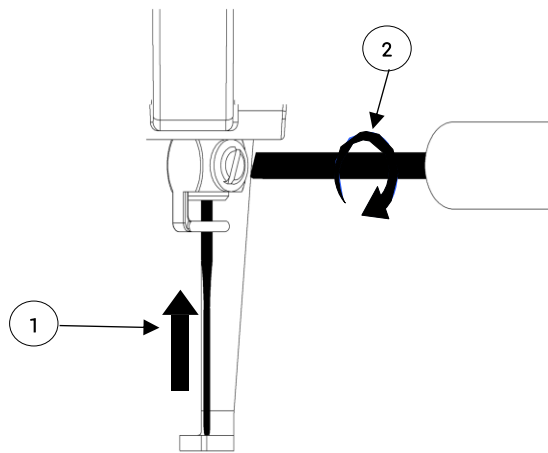

Figure 99
5. Insert a new needle. See No. 1 in Figure 99.
7. Tighten the screw. See No. 2 in Figure 99.